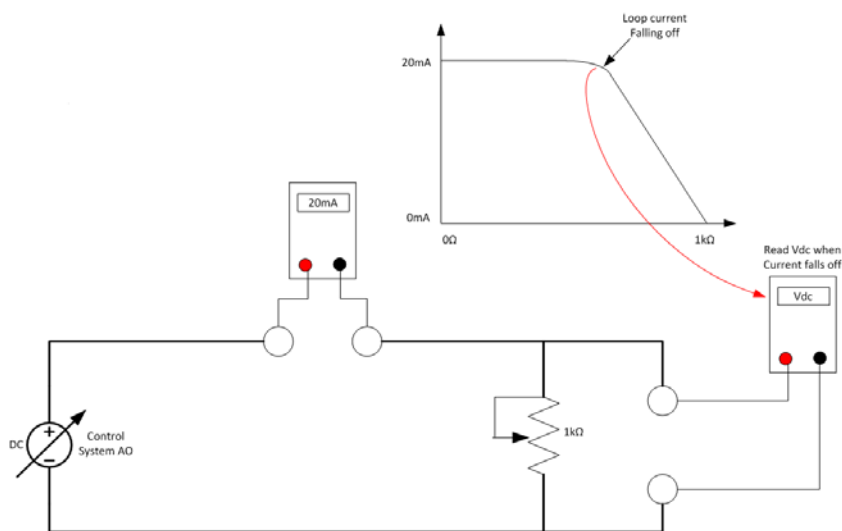

Figure 95 Compliance Voltage Test Setup
1. Configure a test setup as in Figure 95.